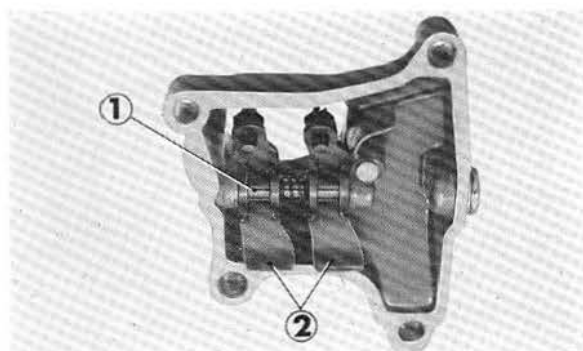

Fig. 2-6 ① Valve rocker arm shaft
② Valve rocker arm
2. Extract the rocker arm shaft and remove the rocker arms. (Fig. 2-6)